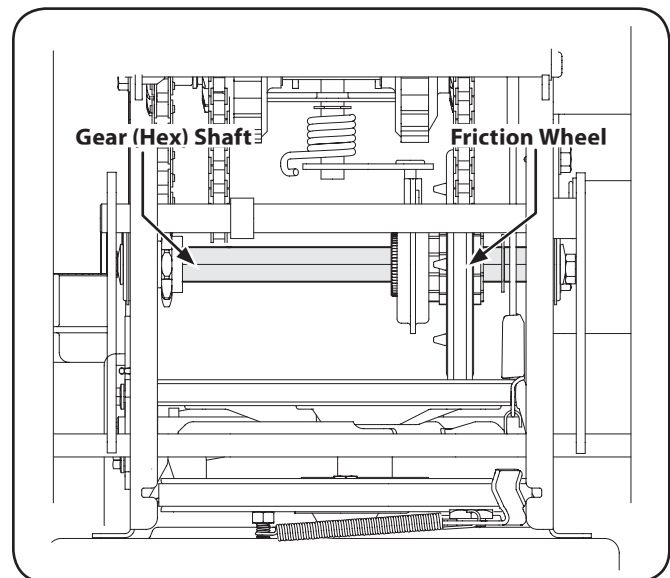

Figure 6-3
3. Apply a light coating of engine oil (or 3-in-1 oil) to the hex shaft. See Figure 6-3.